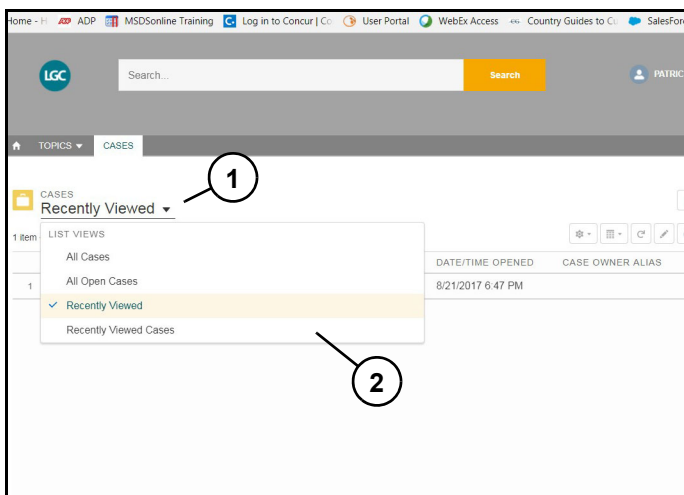

Figure 7
2. Click "Cases" dropdown (1). A number of case viewing options will be displayed (2). (Figure 7)